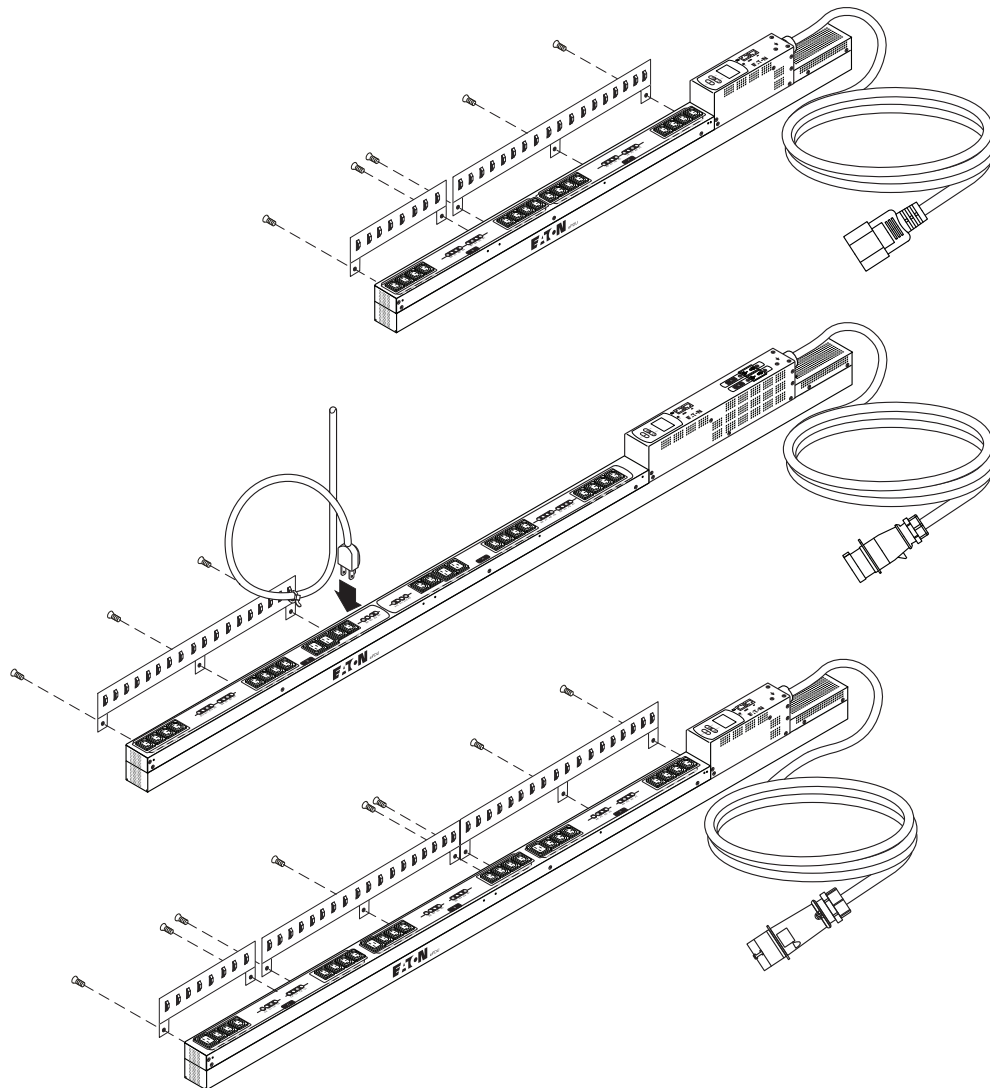

Figure 9. Installing the Cord Retention Brackets
2. Using the screws and a Phillips screwdriver, attach the brackets in a configuration appropriate for your ePDU model and your installation needs. See the examples shown in Figure 9.